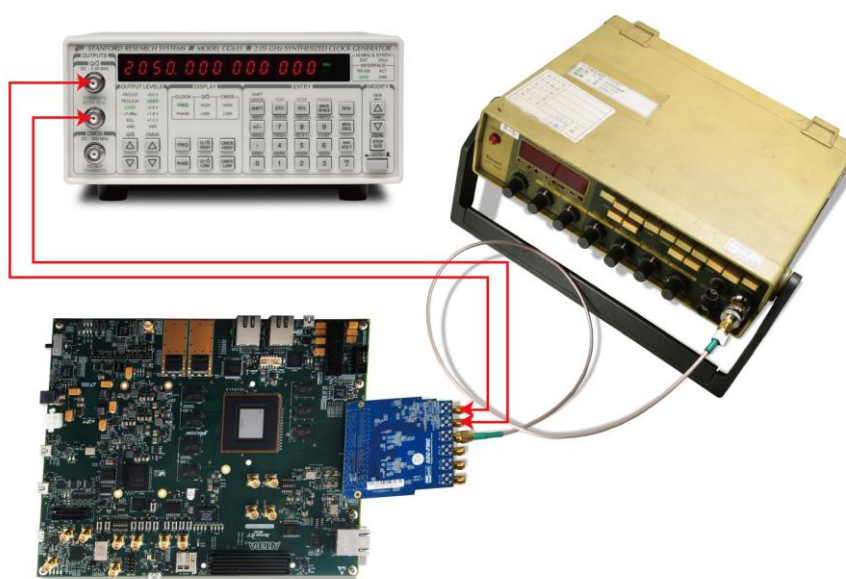

Figure 4-6 Hardware setup of ADC-FMC with A5SoC
Figure 4-6 shows the demo the setup of ADC-FMC with A5SoC mainboard. The ADC-FMC should be installed on the FMC-A expansion header of the A5SoC. Adjust the VADJ of MFC-A connector to be 1.8V.
2. Make sure the ADC-FMC is installed as shown in **Figure 4-6**. Users can connect the output port of the generator to the ADC_A_IN/ADC_B_IN/ADC_C_IN/ADC_D_IN port of the ADC-FMC card through SMA cable (The output frequency should be more than 100KHz). Connect ADC1_CLK and ADC2_CLK on ADC-FMC card to external 125MHz clock generator through two SMA cables. Set the SW1/SW2 on ADC-FMC card as OFF if the clock generator output signal is 3.3V standard, or set SW1/SW2 as ON if the output signal is 2.5V.